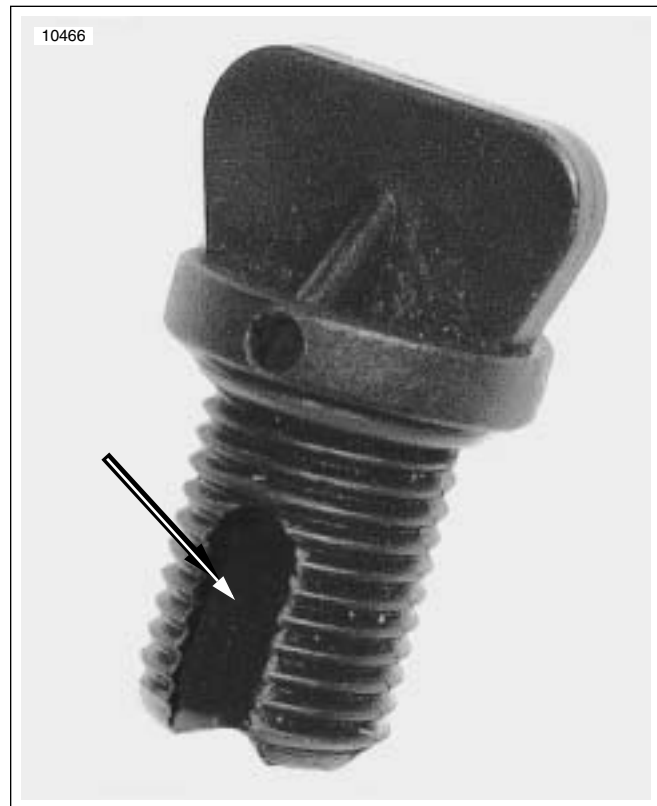

Figure 6-10. Slot in Radiator Drain Plug
7. See Figure 6-10. Loosen but do not remove radiator drain plug. Orient radiator drain plug so that slot in threads is open to container and allow coolant to drain from the radiator.